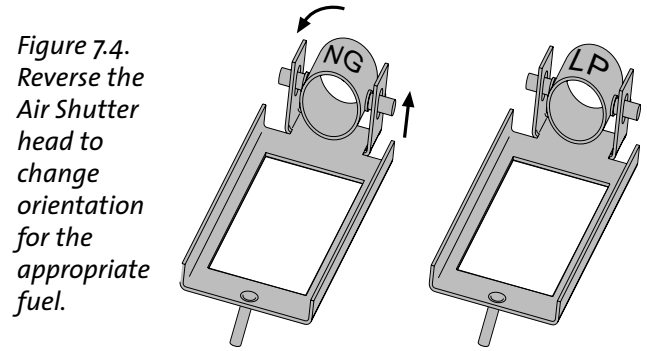

Figure 7.4.
7. **Reverse the Air Shutter orientation** to indicate the appropriate fuel. Fig. 7.4.